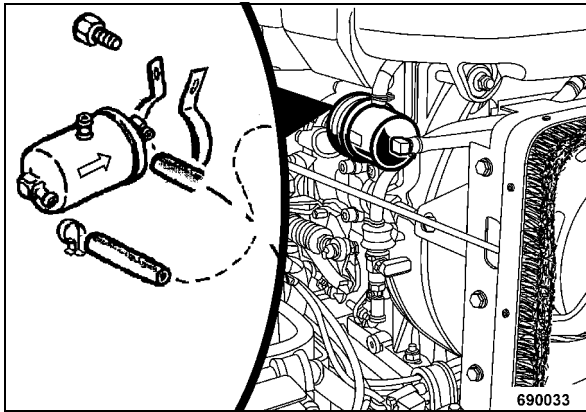

Fig. 63
- Loosen the hose clamps on the three fuel lines and pull the fuel lines off the fuel filter (Fig. 63).